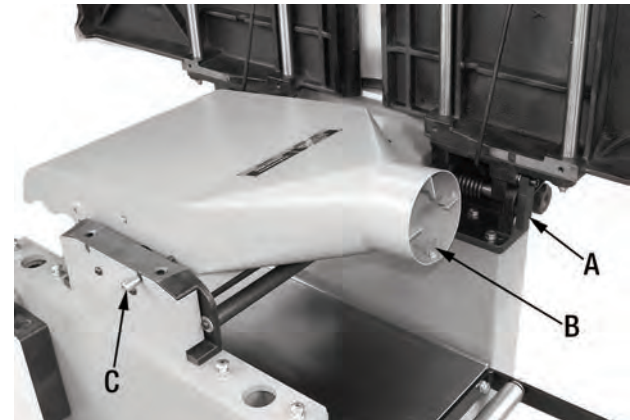

FIGURE 6
3. When the table is in the fully vertical position, a safety latch (A) Fig.6 will prevent the table from moving. Make sure the latch is engaged before continuing or operating the machine.
4. Lift the dust chute (B) Fig.6 up and rotate to the right. Pull on the dust chute release knob (C) and lower the dust chute into position. Release the dust chute locking knob. Connect a hose (not supplied) to a dust collector for optimal results.
1. Pull the dust chute release knob (C) Fig.6 and rotate the dust chute (B) Fig.6 to the left. The planer table may need to be lowered so that the dust chute has enough clearance to rotate freely.
2. Lift the table safety latch (A) Fig.6 to unlock table, and lower the table using the table lifting handle (B) Fig.5. Use caution when lowering the table assembly, as the table is heavy.